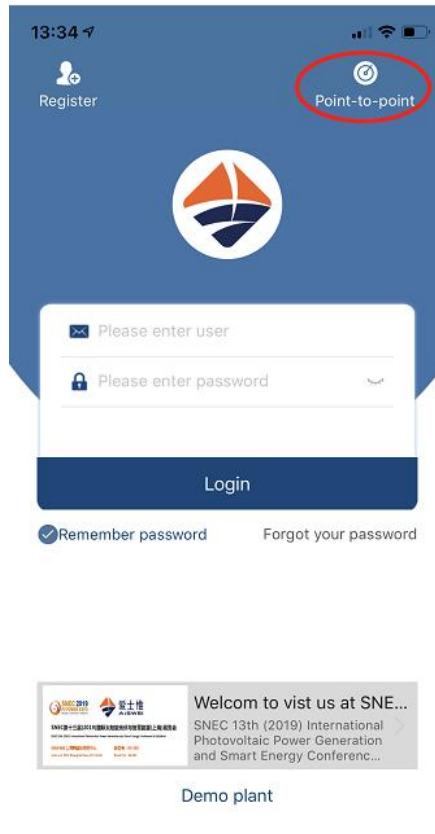

Figure 2-3-2
Step 2: After connecting the mobile phone to WIFI hotspot of the monitor device, open the APP to enter the homepage and click “Point-to-Point” on the top right corner. As shown in Figure 2-3-2.